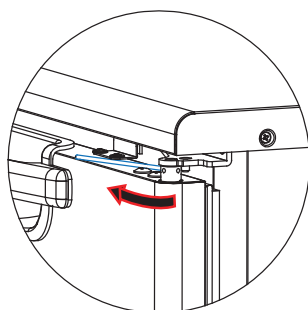

Fig 9-39
4. Turn the stick in the direction of the arrow until the next hole is visible. Avoid dropping or losing the pin. (Fig 9-39)